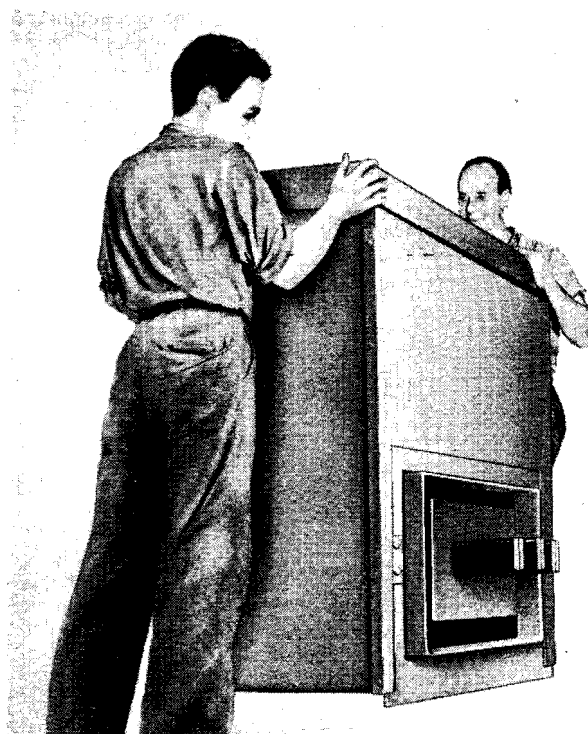

FIG. 2. Removing Top Cover of Throat Housing
c. When the exact location of the leak has been determined, notch the edge of the element as shown in Figure 2 at points two to three inches on either side of the leak. These notches may be cut with a hack saw, a file, or a small grinder.
1. Remove the top cover. (Refer to Fig. 2.)